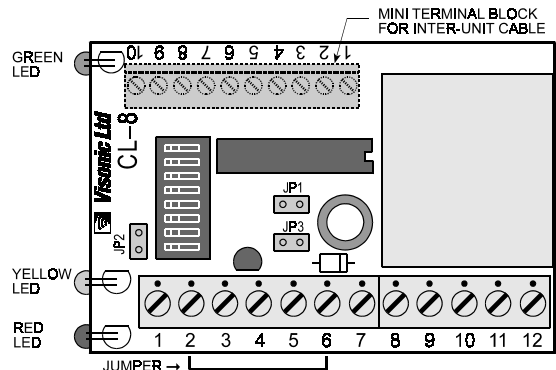

Figure 5. PCB Layout of the CL-8A EXT
- M. Wire up the main terminal block of the CL-8A EXT as instructed in the CL-8A Installation manual ("Connections"). To make the red half of the dual LED in the outdoor keypad light constantly, bridge terminals 6 and 2 with a short jumper wire (see Fig. 5).